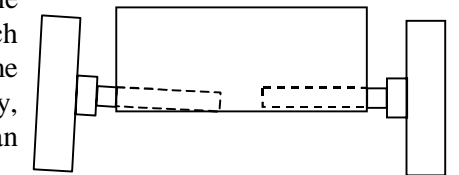

FIGURE 10
1. Tilt the wheel/axle upwards when installing the wheel into the axle slot (see Figure 10). If the axle slot is shallow, you may need to bend the axle.